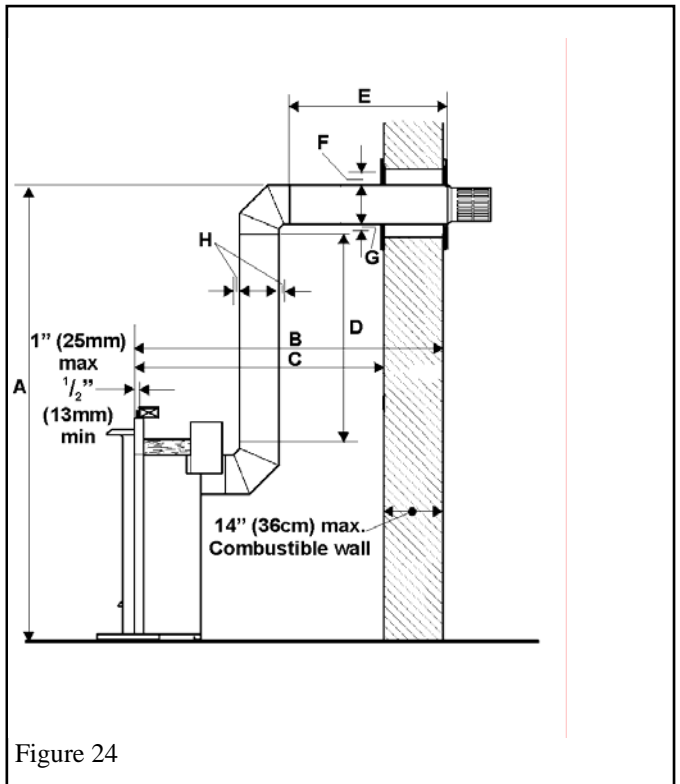

Figure 24
Rear vent connection, vertical vent rise with horizontal termination (Fig. 24)
The location requirements are (See figure 24):-
The dimensional requirements in section 5.2.3 and figure 24 apply.
5.2.6. Corner location, rear vent connection, vertical rise, horizontal termination (Figs 24 & 26)